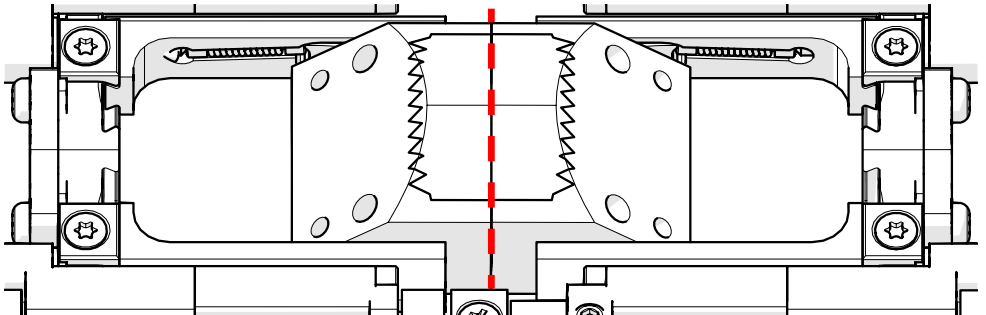

Fig. 74 - Ensure wedge contact
5. Slide the scanner together until the wedges make contact (Fig. 74).